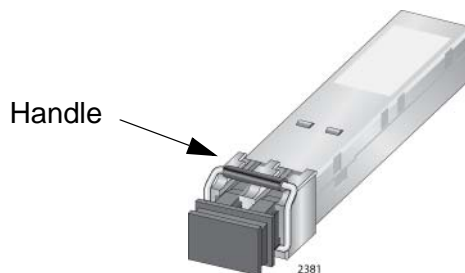

Figure 109. Handle on an SFP+ Transceiver
2. If you are installing the SFP+ transceiver in slot 1 or 3, orient it with the handle on top, as shown in Figure 109. To install it in slot 2 or 4, orient it with the handle on the bottom.